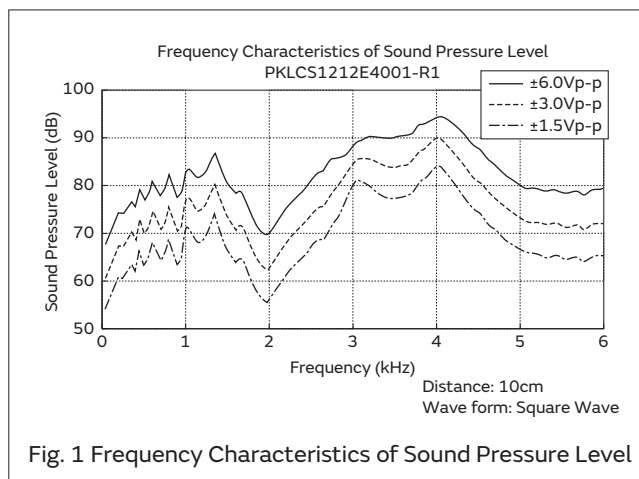

Fig. 1 Frequency Characteristics of Sound Pressure Level
6. Please do not drop the product or apply shock or temperature change to it. If so, the LSI might be destroyed by the charge (surge voltage) generated. Fig.1 shows an example driving circuit using zener diode.
Fig. 1 represents S.P.L. - frequency characteristics for PKLCS1212E4001-R1 in which the input voltage is varied. We can see that S.P.L. is approximately getting 6dB higher as the input voltage is twice as high.